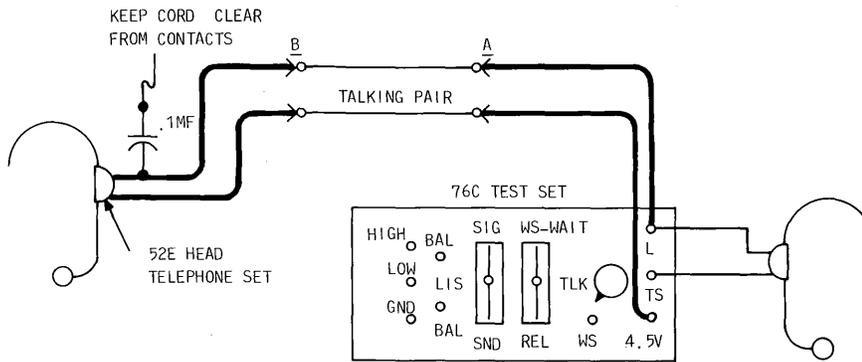

Fig. 21—Connection at Identifying End
- After the talk pair has been identified, the connections to the talk set at the identifying end (B) should be arranged as shown in Fig. 21.